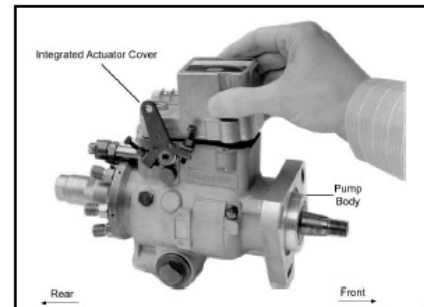

Figure 4
3. Position the integrated actuator cover assembly into the top of the pump while holding the metering valve drive coupling parallel to the pump body. Slightly lift the front portion of the integrated actuator cover as shown in Figure 4.